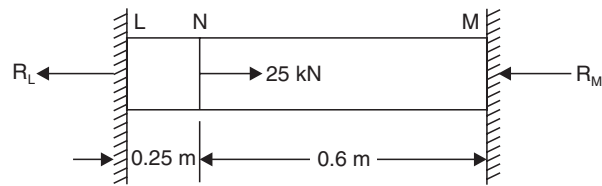

Fig. 12.19
**Example 12.9.** In Fig. 12.19 is shown a steel bar of cross-sectional area  $250 \text{ mm}^2$  held firmly by the end supports and loaded by an axial force of  $25 \text{ kN}$ .
**Sol.** Refer to Fig. 12.19.